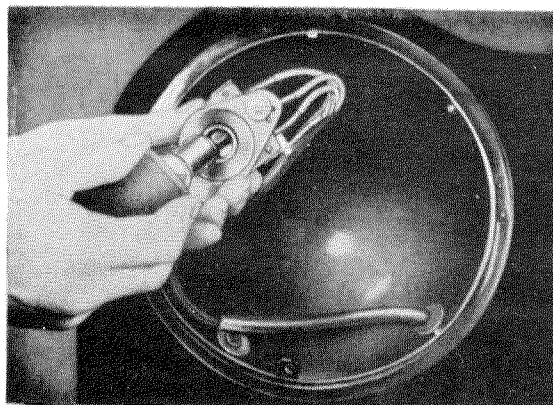

Fig. 82 — 1/3
3. Insert the new bulb in the lampholder (see Fig. 82 — 1/3).